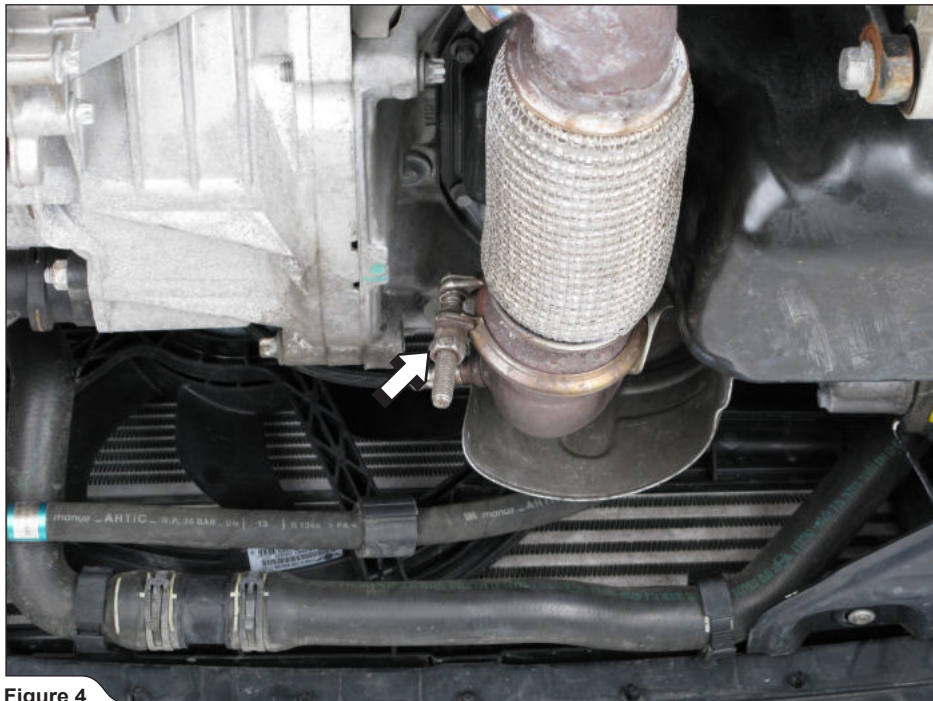

Figure 4
4. **For Evolution and Optional Down-Pipe:** unscrew the nut of the original clamp, remove the bolt, widen the clamp (using two large screwdrivers) and remove it out of the way, as shown (Figure 4, 5).